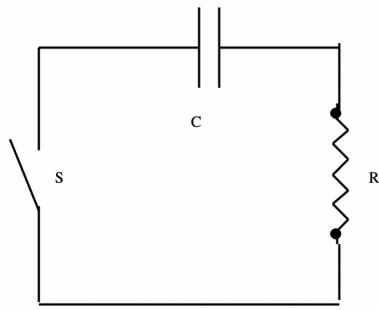

Figure 1: An RC circuit. The switch  $S$  is closed at time  $t = 0$
We will investigate the effect of a capacitor in a simple AC circuit, the resistor-capacitor, or RC, circuit (see Fig. 1). Suppose the capacitor plates initially differ by electric potential  $V_o$ , and the switch is closed at time  $t = 0$ . From the definitions of capacitance and current plus some calculus, it is straightforward to derive an expression predicting that the current  $I(t)$  in the circuit decreases exponentially according to
1. Consider an RC circuit, as shown in Fig. 1. If the switch is closed at  $t = 0$ , the current in the circuit is given by